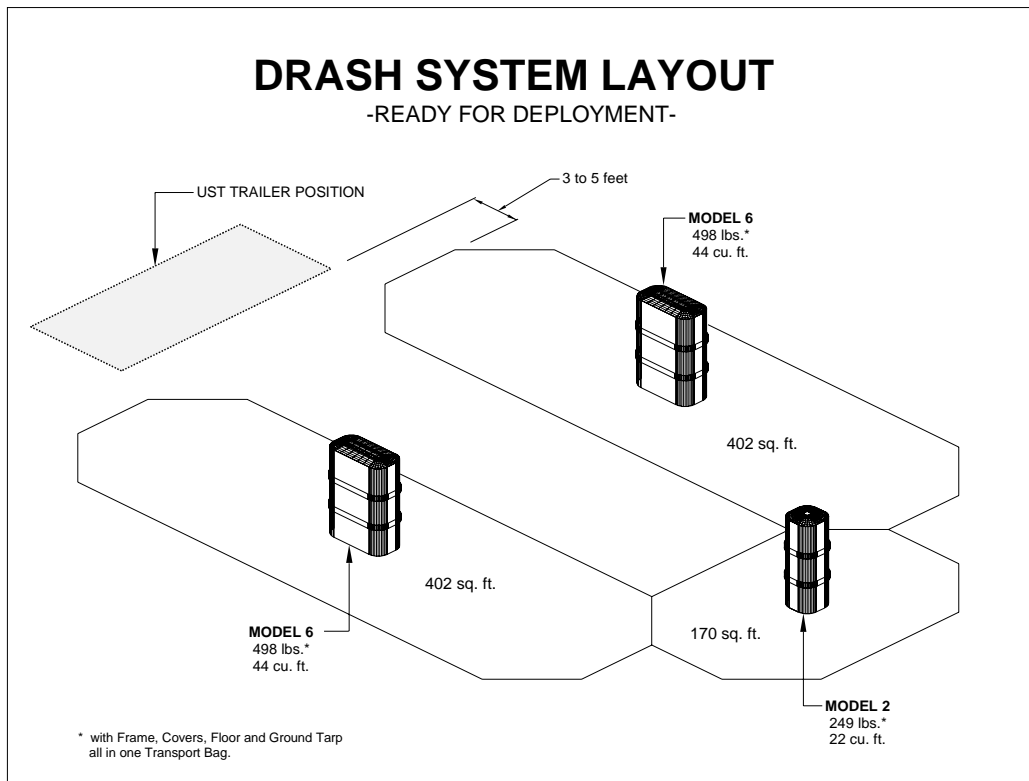

Figure 2-13 - Shelter Complex Layout
2. The recommended layout is a “U” with the trailer positioned at the open end of the “U.” This “U” shape permits the most efficient application for heating or cooling as well as power distribution. Refer to Figure 2-13.
Figure 2-13 shows the older style Shelter in which the door has to be removed at the inner Connector Strip.